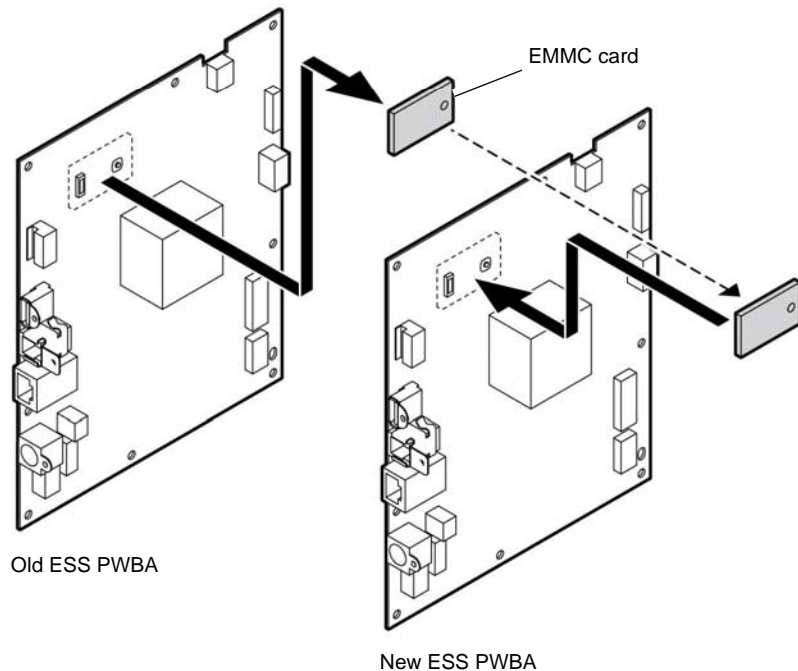

Figure 5 Transfer the EMMC card
1. If installing a new ESS PWBA, swap the EMMC card from the old ESS PWBA, onto the new ESS PWBA, before the new ESS PWBA is installed, Figure 5.